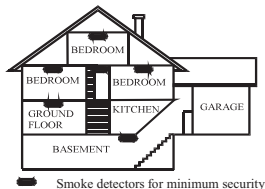

Figure 3:
- Install a smoke detector on every floor of a multi-floor home or apartment, as shown in Figure 3.